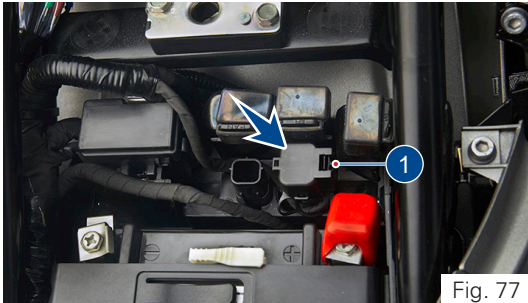

Fig. 77
- Gently pull out connector along with its cap from its location by releasing the lock (1) (ref. Fig. 77).